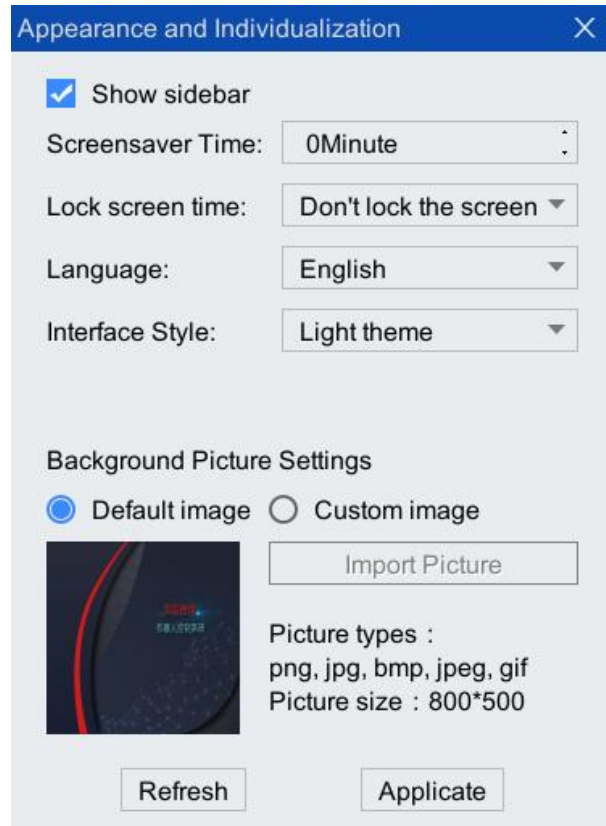

Figure 8-29 "Appearance and Invididualization" setting interface
- Step1. On the main interface of the teach pendant, click "System > Appearance and Personalization" option to enter the "Appearance and Personalization" setting interface as shown in Figure 8-29, screen saver time, lock screen time, language, The interface style and background picture can be set here (see Table 8-7 for each item description).